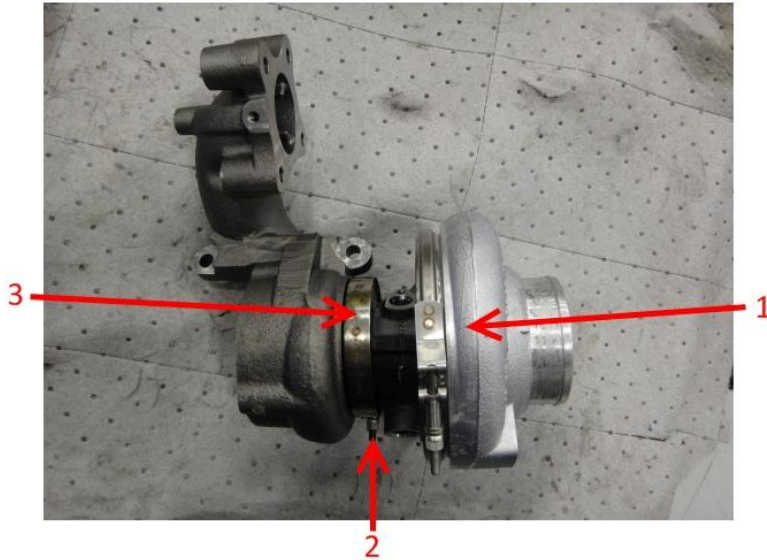

Figure 5: New Low-Pressure Turbocharger
8. Loosen LP Turbocharger V-Band Clamp (Figure 5, Item 3) and remove LP Turbocharger Center Section (Figure 5, Item 1) from turbine housing.